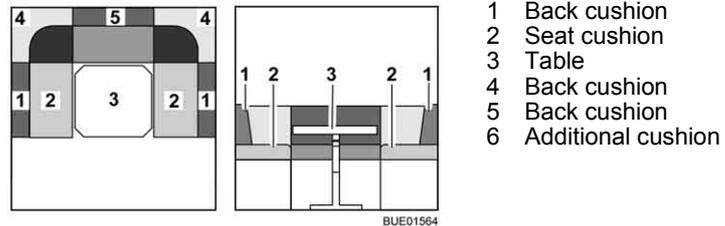

Fig. 104 Prior to conversion
- Convert the table (Fig. 104,3) to a bed foundation (see section 6.12).
- Remove all back cushions (Fig. 104,1, 4 and 5) and lay them aside.